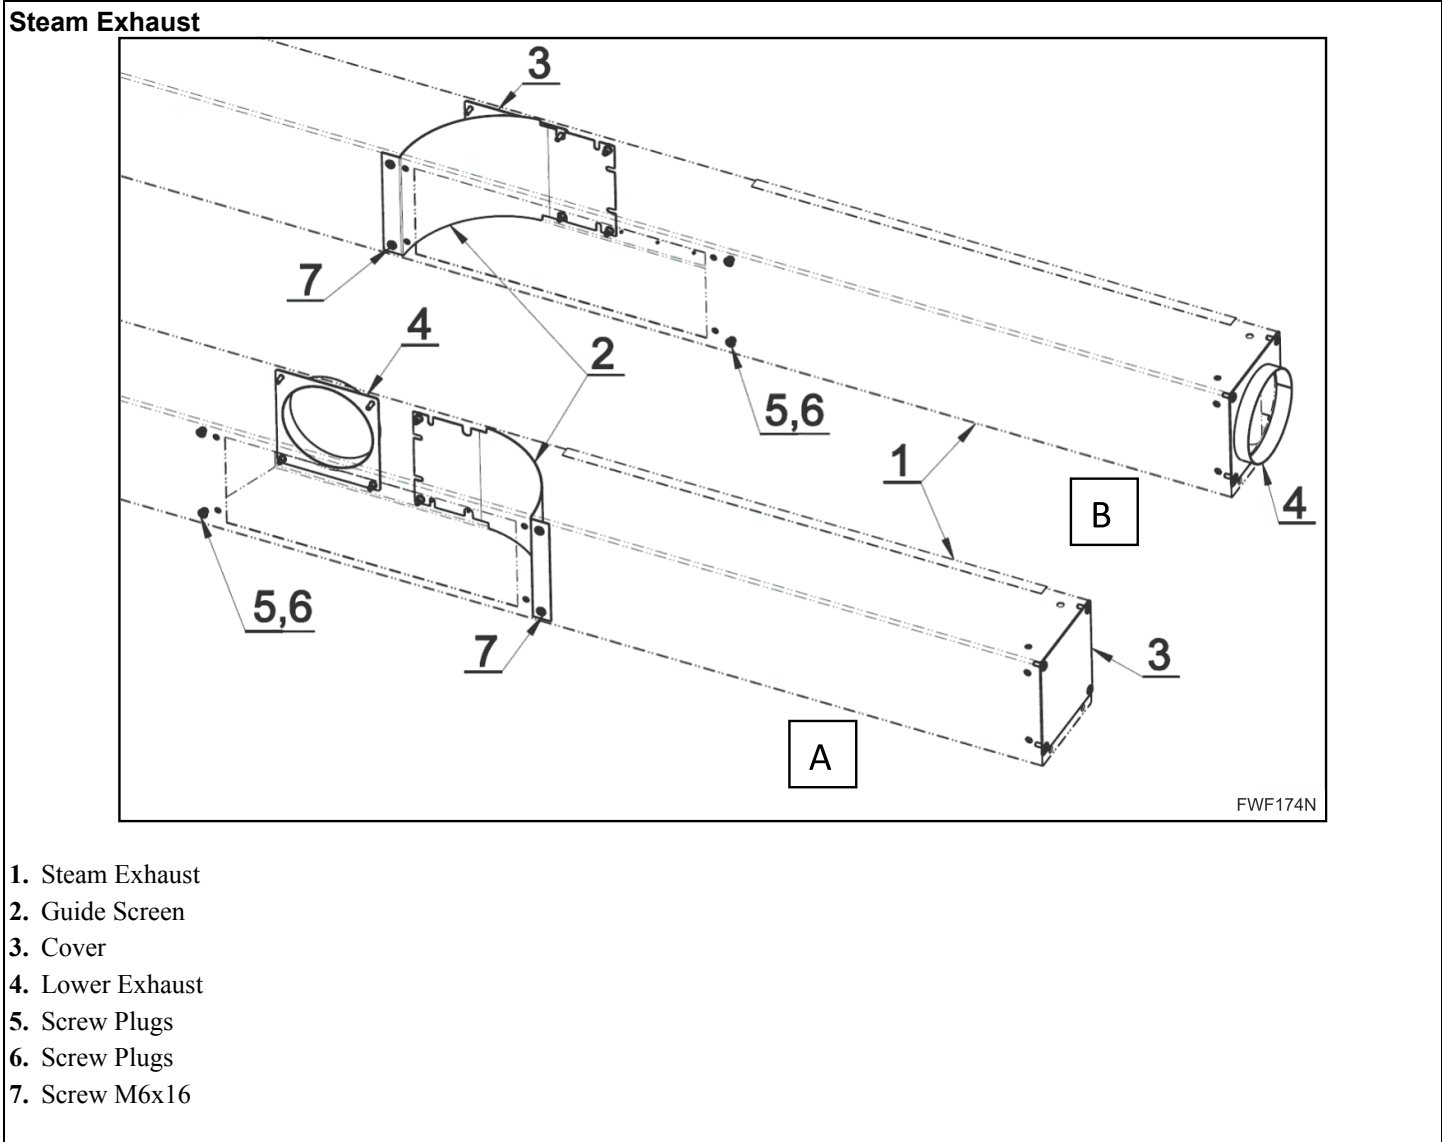

Figure 26
- The machines are supplied in two versions as far as the steam exhaust system is concerned. Refer to *Figure 26* and chapter *Connection to Steam Exhaust*.
- A – steam exhaust backwards: *Figure 26* – version A and *Figure 1*.
- B – steam exhaust to the right: *Figure 26* – version B and *Figure 12*.
- Change of the guide screen (2) position
- Interchange of the screw plugs positions (5), (6) – 2 pcs
- Interchange of the components (3) and (4)